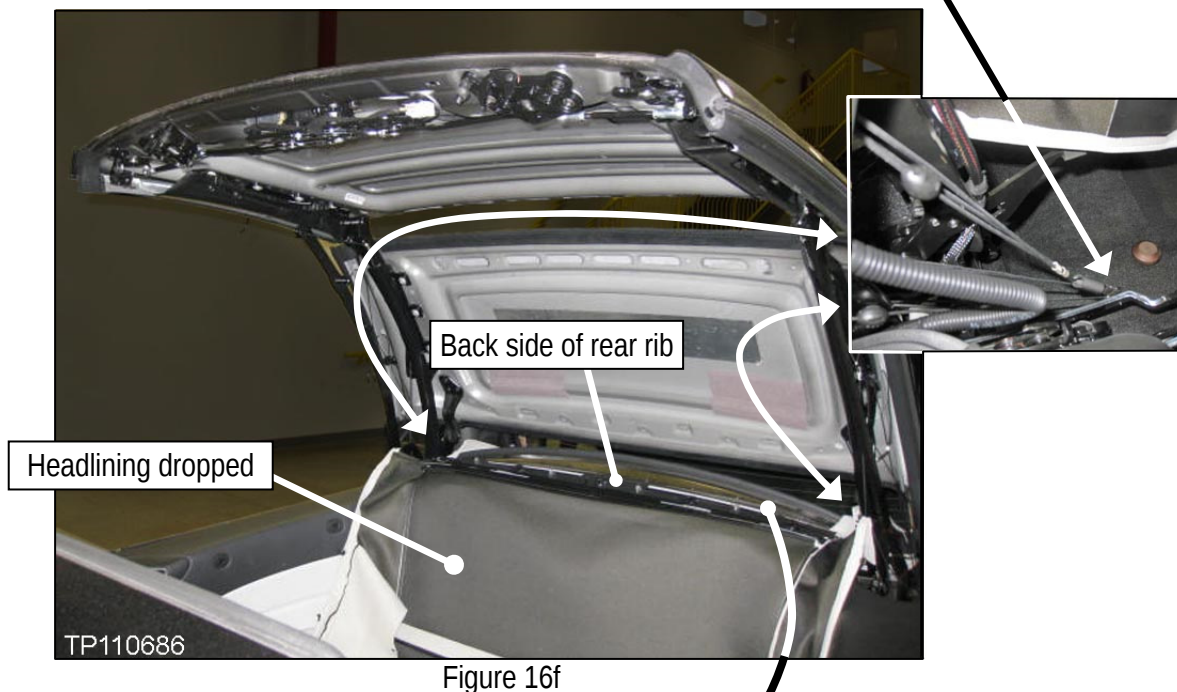

Figure 16f
17. Next, drop down the headlining and lay out on the rear back seat to access the rear rib (see Figure 16f).